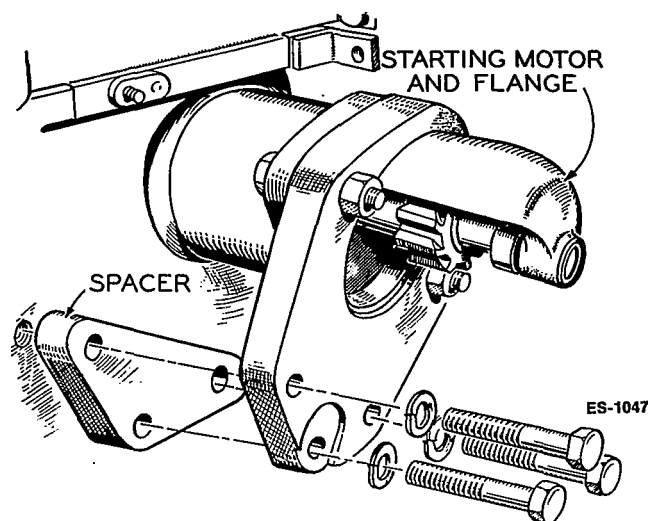

FIGURE 46. STARTING MOTOR FLANGE
9. Mount starter motor to engine by a direct reversal of the removal procedure (Figure 46). Connect battery cable and wires to starter.